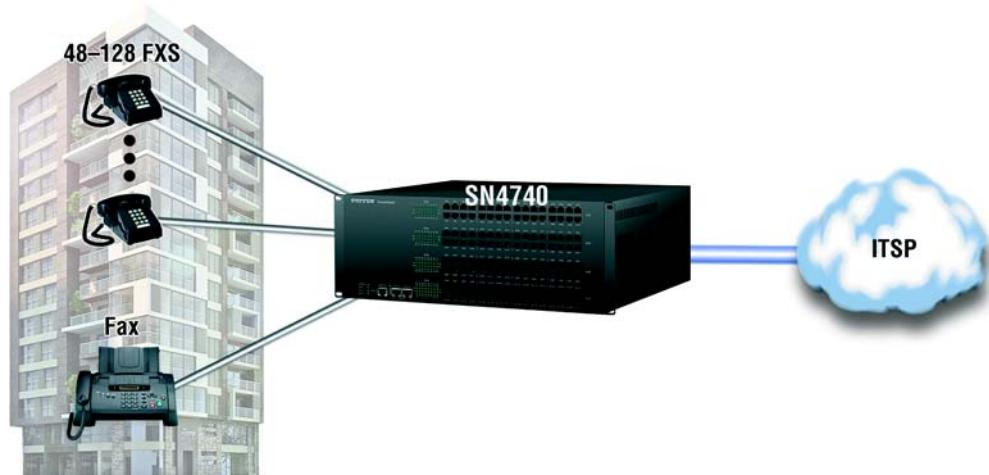

Figure 8. Residential apartments, public administration office, care homes, etc.
- Residential apartments, public administration office, care homes, etc. (see figure 8 on page 23)